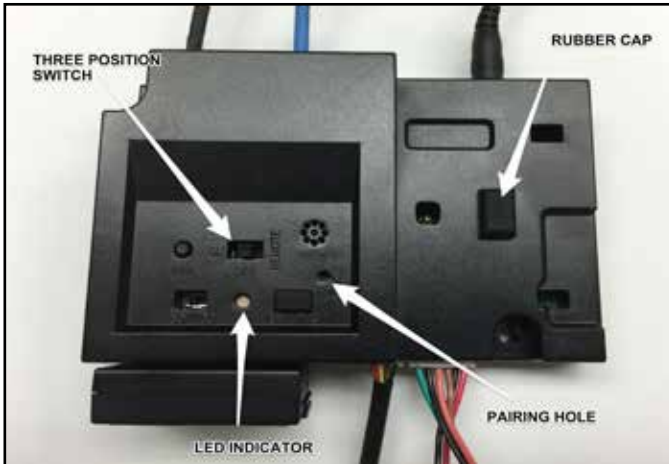

Figure 7. IFT-ECM
1. Locate the IntelliFire™ Touch electronic control module (IFT-ECM) in the control cavity of the appliance and move the three-position switch to the OFF position. See Figure 7.
2. Remove protective rubber cap from connector on the top of the IFT-ECM. See Figure 7.